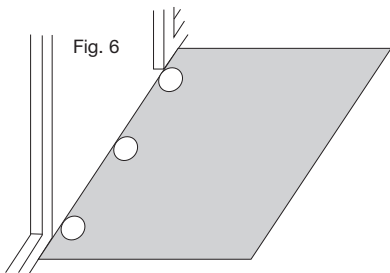

Fig. 6
- Straight door:** Use 3 markers (see fig. 6)
a. Place the white markers like shown on the illustrations (see fig. 6, 7 and 7.1), to define the width and position of the entire door.